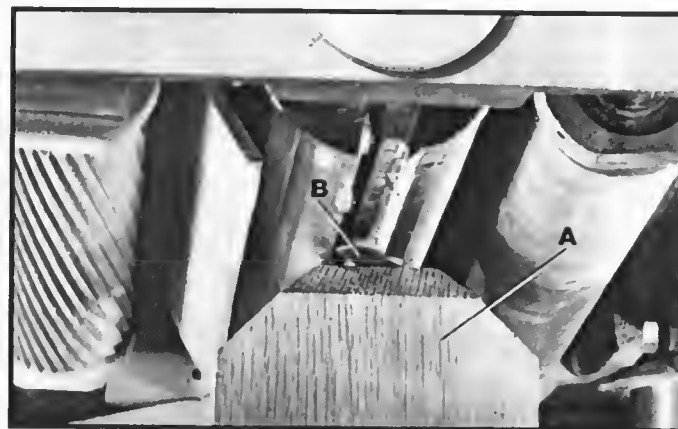

Fig. 39
3. Place the gage block (A) Fig. 39, on the table directly underneath the cutterhead, as shown. Depending on which end of the outfeed roll you are checking and adjusting, place either a 0.030" or 0.020" feeler gage (B) Fig. 39, on top of the gage block, as shown. In this case we are using a 0.030" feeler gage as we will be checking the height of the left side of the outfeed roll. Raise or lower the head assembly until one of the knives just touches the feeler gage when the knife is at its lowest point. Then tighten the head locking knobs.